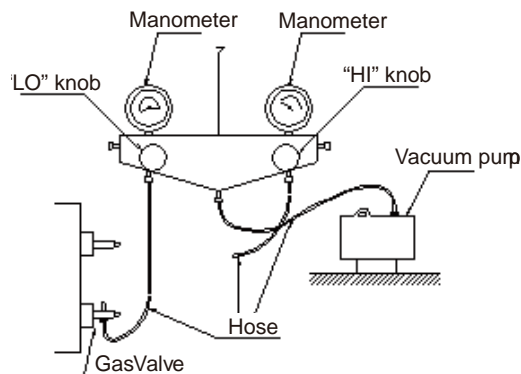

Fig.8
- 3) As shown in the following figure (Fig.8), expel the gas inside the indoor unit and refrigerant pipe out by the vacuum pump. (2 purposes of outdoor unit's main valve: 1.vacuum pumping 2.Control the on /off of outdoor unit refrigerant)